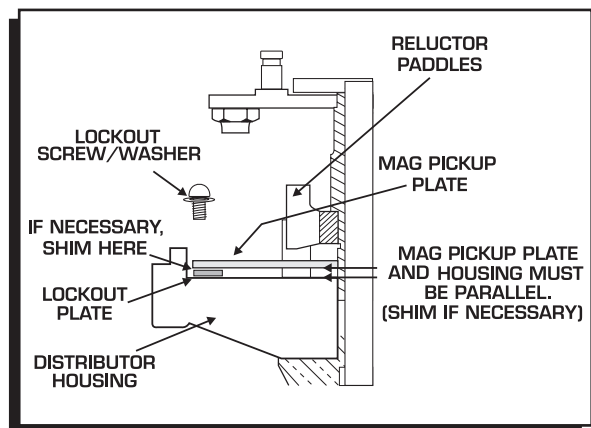

Figure 11 Checking Installation of the Lockout
6. It is important to make sure the pickup plate is parallel with the housing of the distributor (Figure 11). If it is cocked or slanted, the paddles of the reluctor may contact the pickup. Check the clearance by rotating the distributor shaft. If necessary, use the supplied shims under the Lockout hold-down to correctly position the pickup plate.